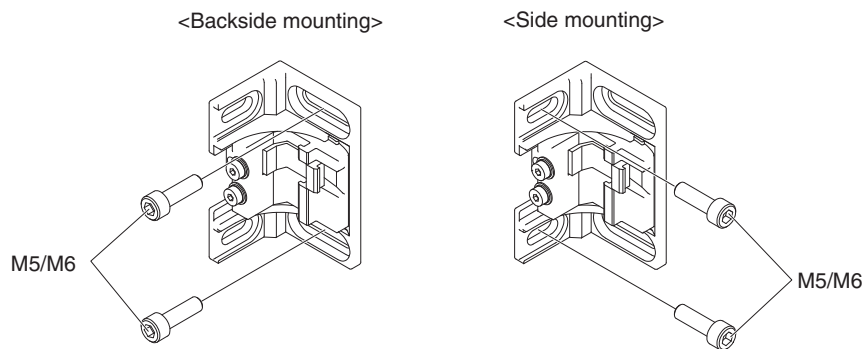

Fig. 1
- Securely tighten the screws to fix the Adjustable Side-Mount Bracket to the mounting position of the wall surface. When using more than one Adjustable Side-Mount Brackets, align them in the same line using the sides of the brackets that do not face the wall, before attaching the bracket to the sensor. (Fig. 1)